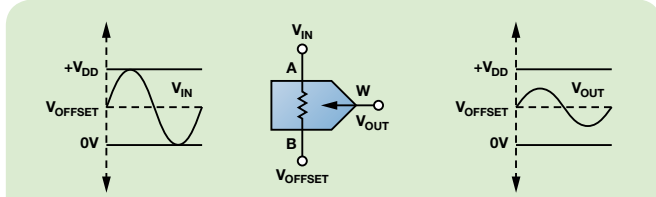

Figure 7. AC signal, single-supply mode.
- Single supply: +2.3 V to +33 V (see Figure 7)